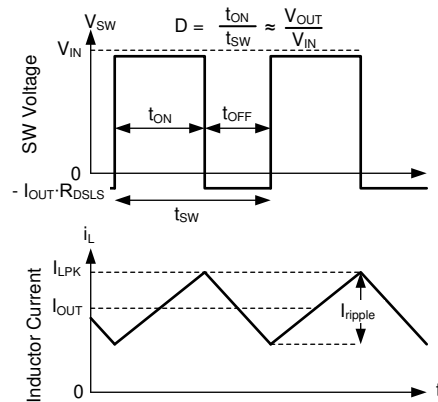

图 8-14. SW Voltage and Inductor Current Waveforms in Continuous Conduction Mode (CCM)
The following operating description of the LMR36506 refers to 节 8.2 and to the waveforms in 图 8-14. In CCM, the LMR36506 supplies a regulated output voltage by turning on the internal high-side (HS) and low-side (LS) switches with varying duty cycle (D). During the HS switch on-time, the SW pin voltage, V_{SW} , swings up to approximately V_{IN} , and the inductor current, i_L , increases with a linear slope. The HS switch is turned off by the control logic. During the HS switch off-time, t_{OFF} , the LS switch is turned on. Inductor current discharges through the LS switch, which forces the V_{SW} to swing below ground by the voltage drop across the LS switch. The converter loop adjusts the duty cycle to maintain a constant output voltage. D is defined by the on-time of the HS switch over the switching period: